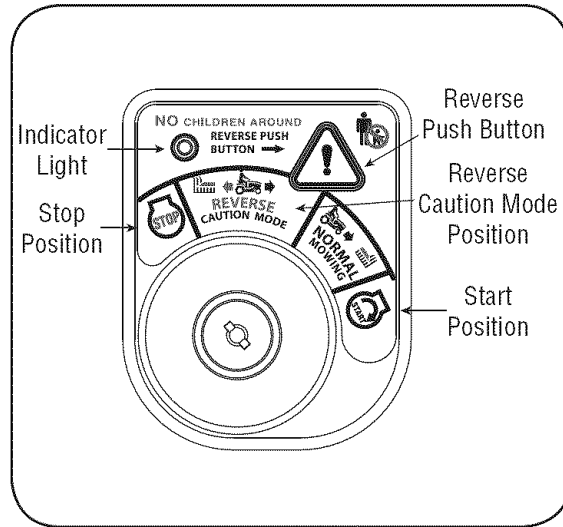

Figure 4-5
2. Turn the key from the **NORMAL MOWING** (Green) position to the **REVERSE CAUTION MODE** (Yellow) position of the key switch module. See Fig. 4-5.
3. Depress the **REVERSE PUSH BUTTON** (Orange, Triangular Button) at the top, right corner of the key switch module. The red indicator light at the top, left corner of the key switch module will be **ON** while activated. See Fig. 4-5.